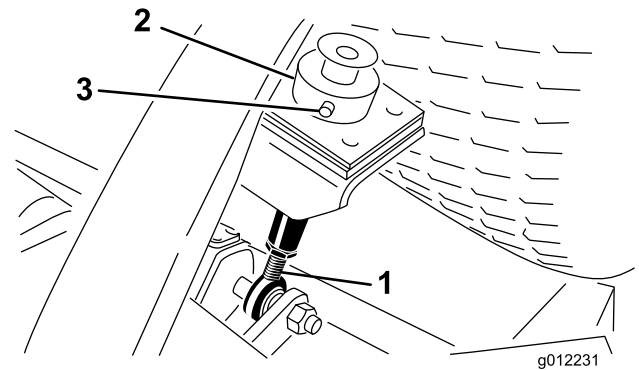
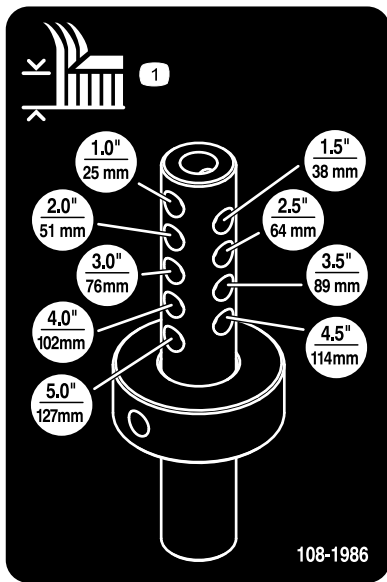

Figure 8
Figure 9
5. Remove the hair pin and clevis pin securing the height of cut collar to the height of cut rod on the rear of the cutting unit (Figure 8).
6. Align the height-of-cut collar to the desired height-of-cut holes on the height of cut rod (Figure 8 and Figure 9).